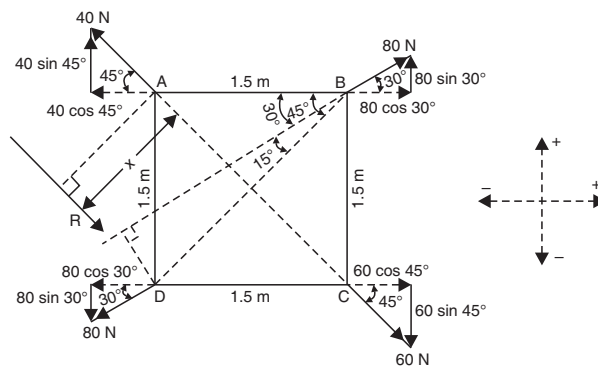

Fig. 3.37
**Sol.** Refer to Fig. 3.37.
or  **$x = 2.196 \text{ m from A (Fig. 3.37). (Ans.)}$**